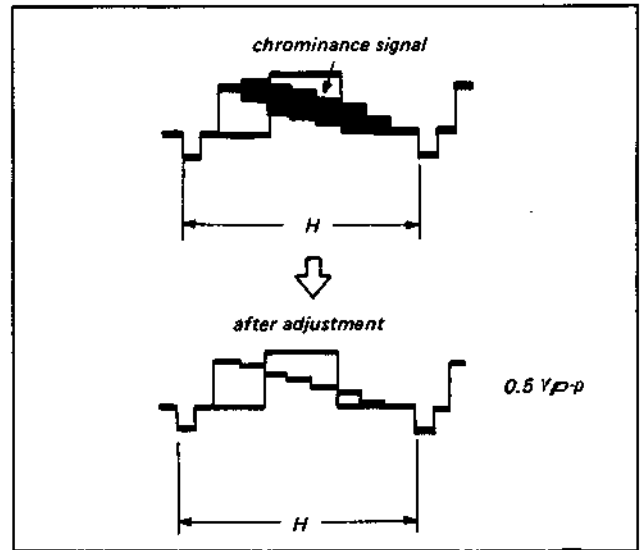

Fig. 5-24. Comb filter adjustment
- 2) Connect the oscilloscope to the emitter of Q25 and then adjust LV2 and RV10 alternately until the chrominance signal is minimum. (See Fig. 5-24.)